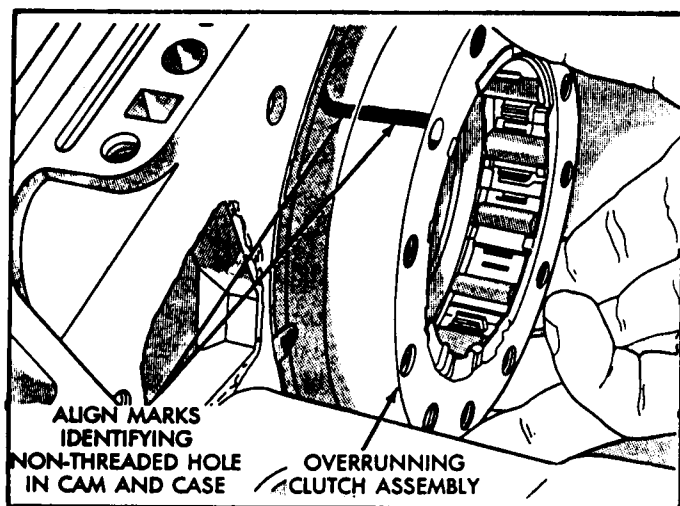

Figure 29
44. Check the overrunning clutch cam for "Align Marks" on the cam and case, as shown in Figure 29. These marks are to identify the Non-threaded hole in the overrunning clutch cam.
45. If there are no paint marks to identify the non-threaded hole, put some there for reassembly purposes, before removal. Refer to Figure 29.
46. Remove overrunning clutch cam and the roller clutch assembly as a unit. Turn cam back and forth and tilt it inward to remove it from case (Figure 29).